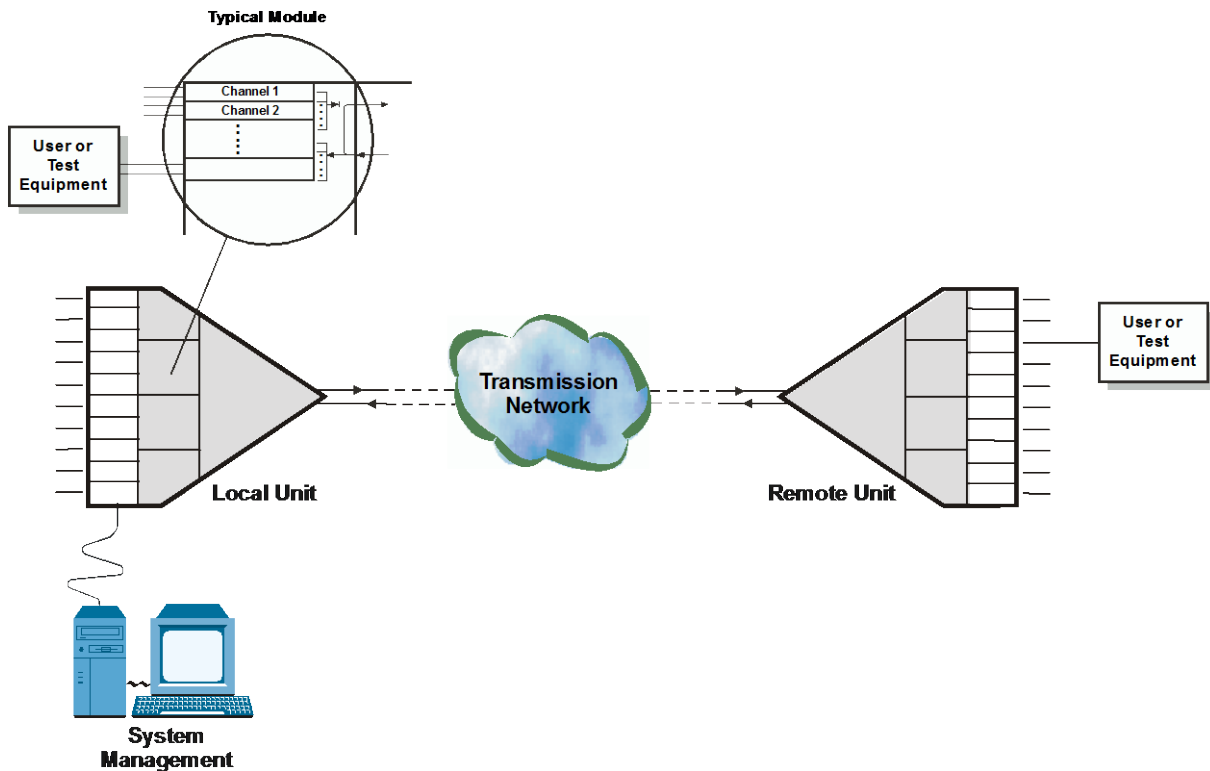

Figure 6-12. I/O Module, Remote Loopback on Module Output
- A remote loopback on a module (*Figure 6-12*) allows the remote side to check the complete transmission path down to, but without including, the local module. This type of loopback is available for the same types of modules that support the local loopback. It is useful for locating faults in the remote module, and in the path up to the local module.